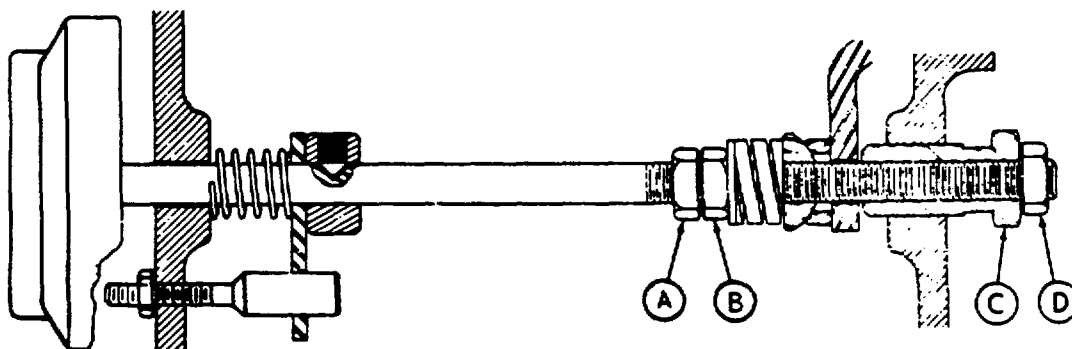

FIGURE 96
- (1) Turn Cutting Pressure Control counterclockwise against stop.
- (2) Loosen Locknut "D" (Figure 96).
- (3) Watching the Honing Dial, turn threaded Sleeve "C" counterclockwise (as viewed from rear of machine) slowly until the needle returns to "0".
- (4) Lock Nut "D" against threaded Sleeve "C".
- (5) To check the adjustment, turn Cutting Pressure Control all the way counterclockwise. Press the Feed Dial all the way in and release it slowly. Needle should not return all the way to red line.
- (6) Set the Cutting Pressure Control on 1 and the needle should move to red line.